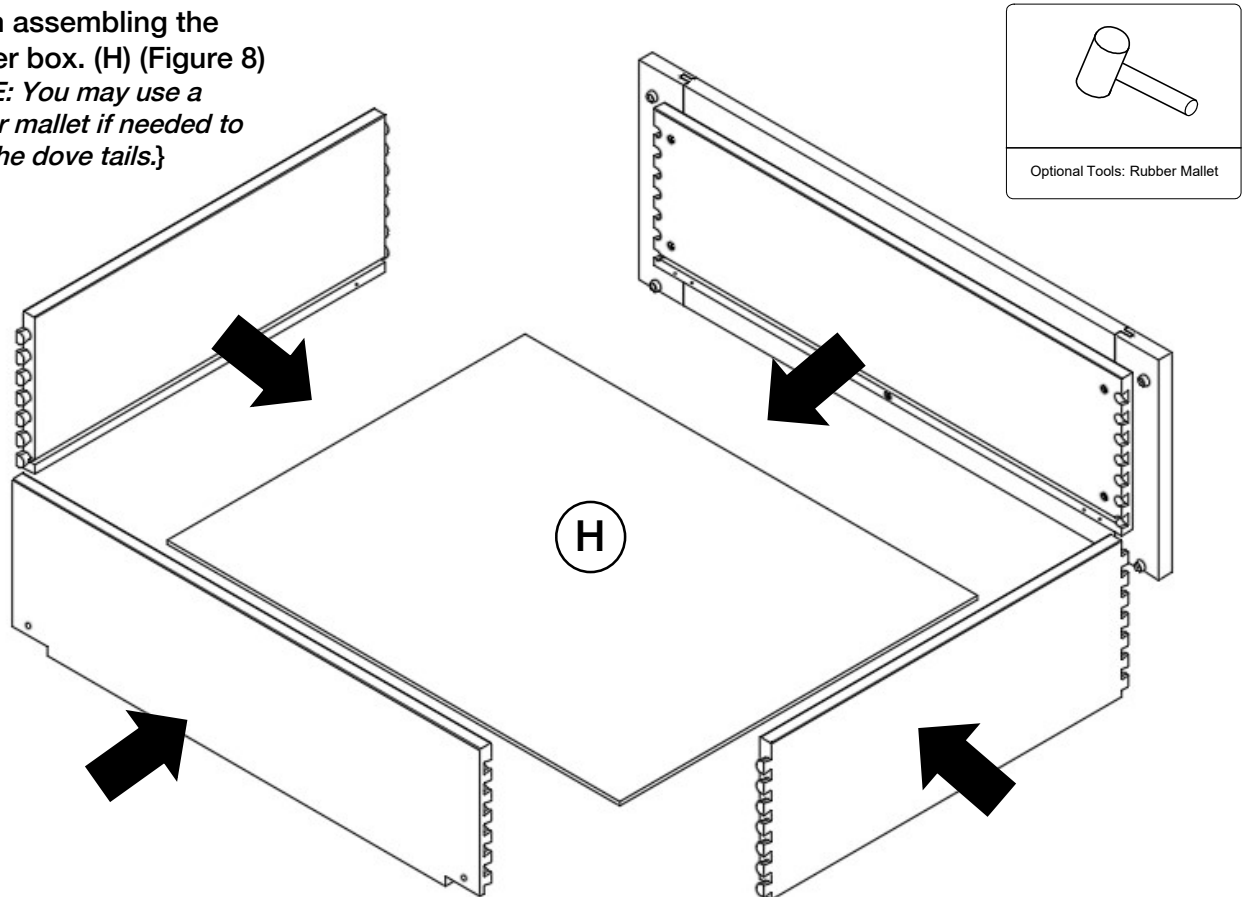

Figure 8
Finish assembling the drawer box. (H) (Figure 8)